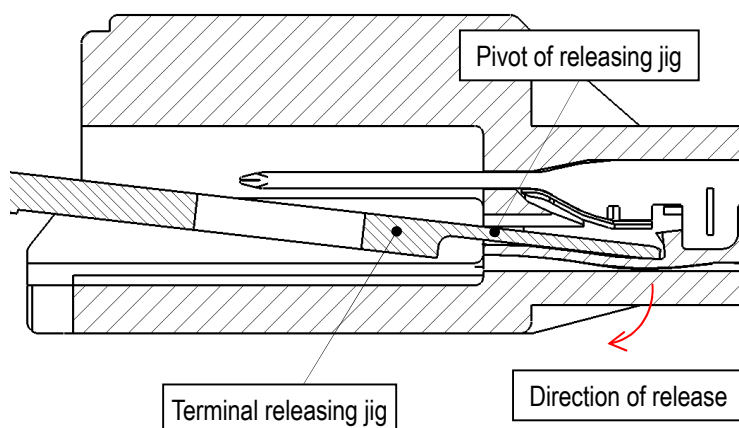

Fig 35. Terminal releasing jig in operation
- ③ Push the releasing jig fully into the lance, then lever up the lance as shown in Fig.35.
- ④ If there is any difficulty in pulling out the terminal, do not pull it forcefully. Check that the jig is in the correct place, that it is pushed fully in, etc. and repeat the procedures ① to ③.